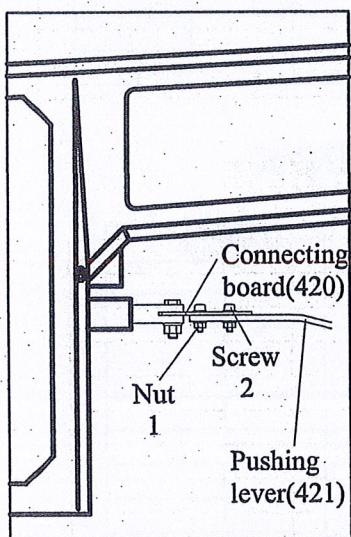

Fig 12
- Loosen nut 1 and screw 2, unconnecting the Connecting board(420) and the Pushing lever(421). (as shown in Fig 12)
To set the distance of needle bar be pushed, proceed as follows(Fig 12)